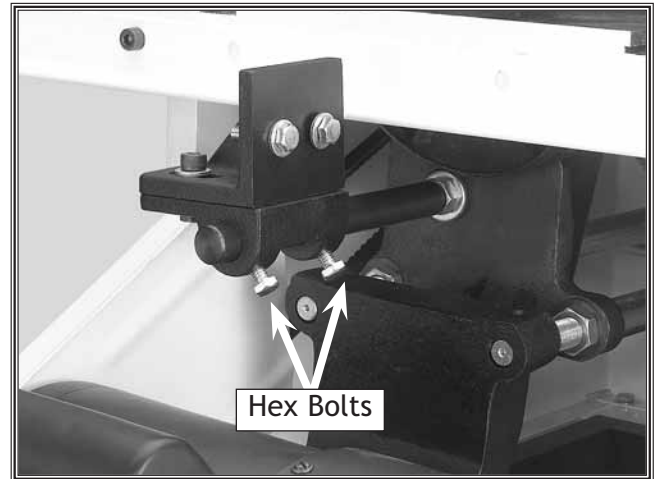

Figure 35. Splitter bracket installed on shaft.
4. Slide the blade guard bracket assembly onto the end of the shaft as shown in Figure 35 and tighten the hex bolts.